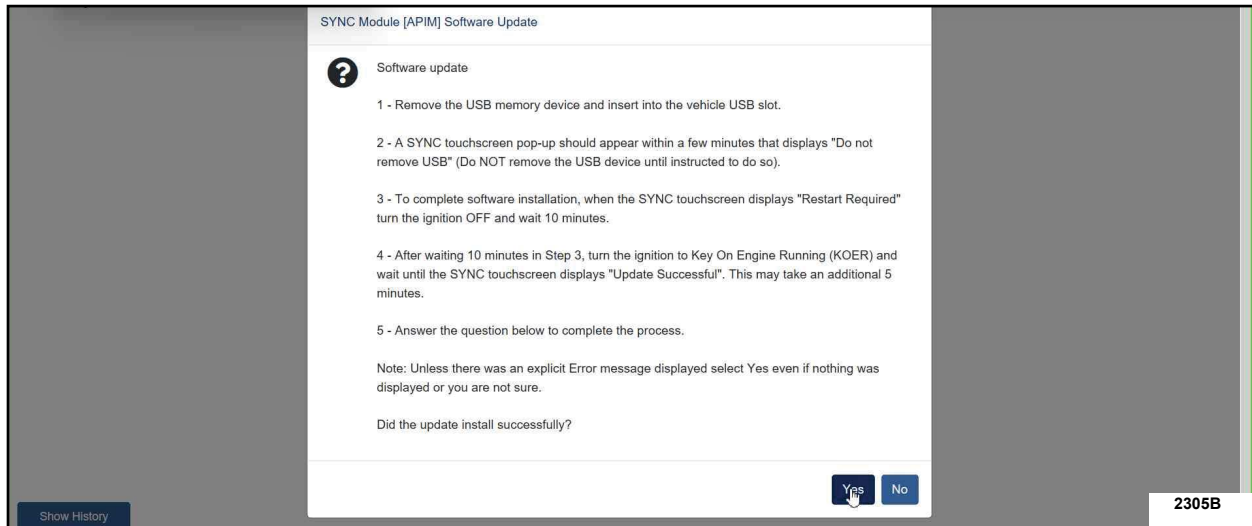

FIGURE 2
18. Continue to follow all on-screen instructions carefully until the following screen is reached. See Figure 2.
- b. Wait ten (10) minutes.
20. After 10 minutes continue with the remaining steps shown in Figure 2.